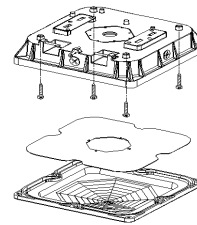

FIG.8
4. Replace the reflector and lens diffuser FIG.8